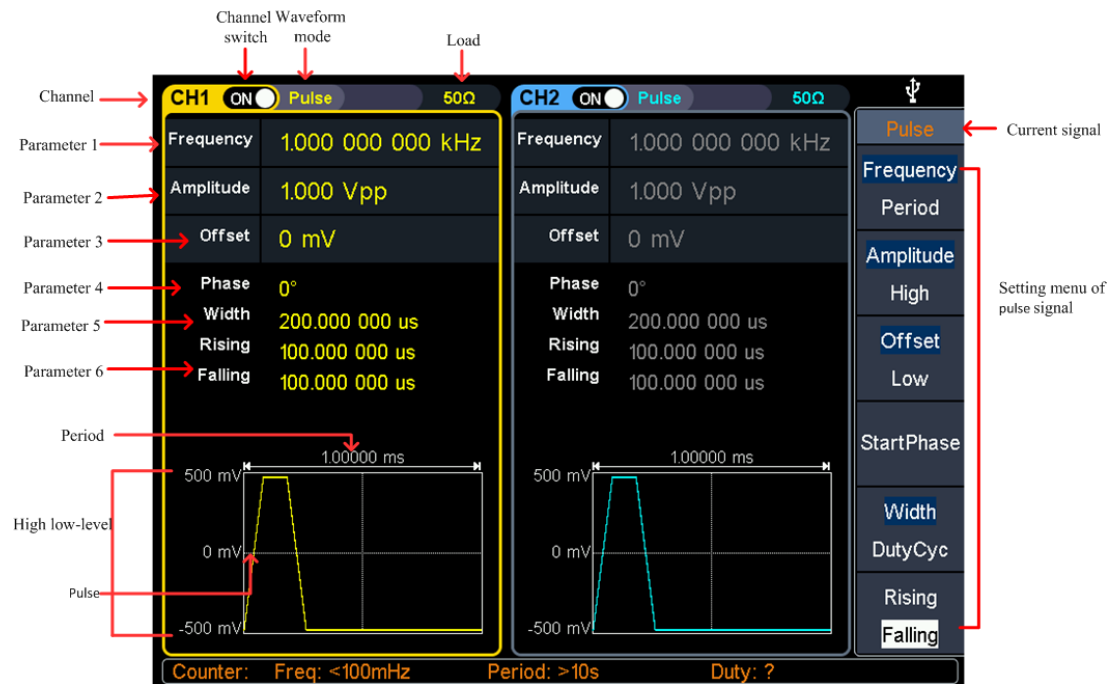

Figure 5-6: Pulse wave user interface
- (1) Press the **Symmetry** softkey to select the **Symmetry** menu item. Figure 5-6
- (2) Use the **knob** to change directly, the value in **parameter 1** of Figure 5-6; Or use the numeric keypad to enter the value, press the **%** or **Enter** key to
Press the **rise time / fall time** soft key to select the "rise time / fall time" menu item, as shown in Figure 5-6, parameter 6 shows the current value of the rise/fall time; press the **rise time / fall time** key to switch between the current display. Parameter value.